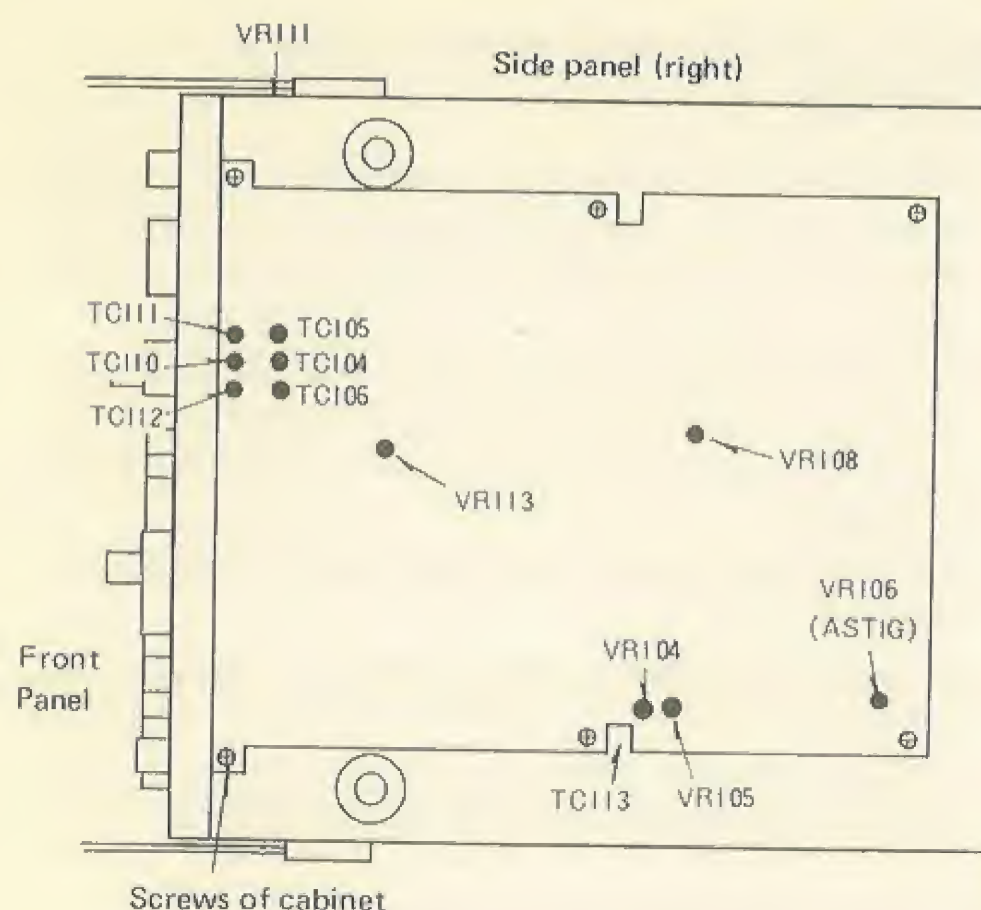

Fig. 29
DC BAL (1) Adjustment: (Refer to Fig. 29)
DC BAL (2) Adjustment: (Refer to Fig. 29)